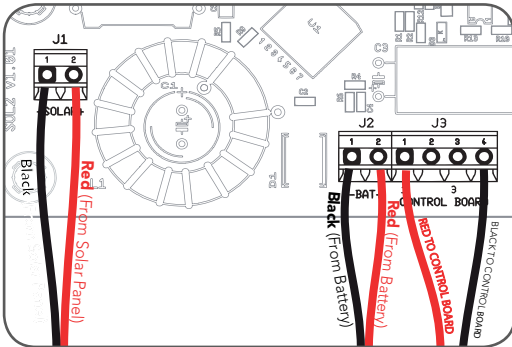

Fig 67
5. Connect the **red wire** to the Charger Board's "BAT+" connector, and the **black wire** to the "BAT-" connector (**Fig. 67**).